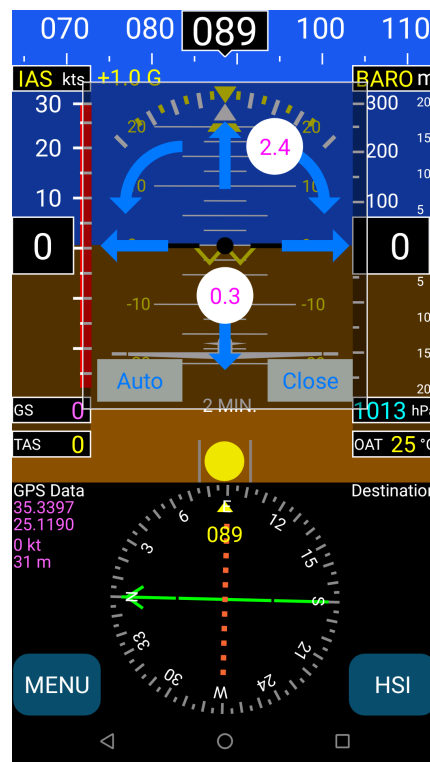

Fig. 6: AHRS leveling. Press “Auto” for automatic leveling, and/or use the arrows to manually adjust the AHRS and the compass.
- Connect your smart mobile device (iOS or Android) to the AEOLUS-SENSE 4(T) ADS-B wifi Network.
- EFIS TA app will return back to the main screen and the “AHRS leveling” window (Fig. 6) will appear.
- Press the “Auto” button for automatic AHRS leveling, and/or use the arrows to manually adjust the AHRS. Manual adjustment may be unavoidable if, for example, you are installing AEOLUS-SENSE 4(T) ADS-B in an aircraft with a tailwheel-type landing gear (a taildragger).